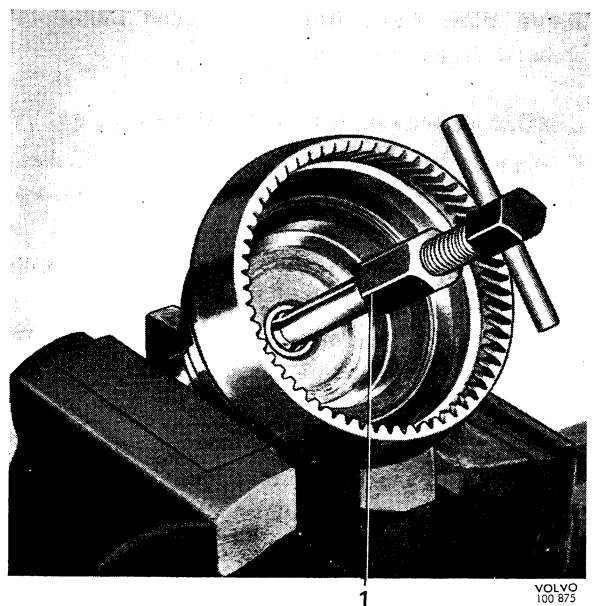

Fig. 4-41. Removing bush, output shaft
4. Remove the circlip and the oil thrower, which hold the uni-directional clutch on the output shaft. Lift out the uni-directional clutch components. Remove the thrust washer. If necessary pull the bush on the output shaft out with puller SVO 2423, see Fig. 4-41.